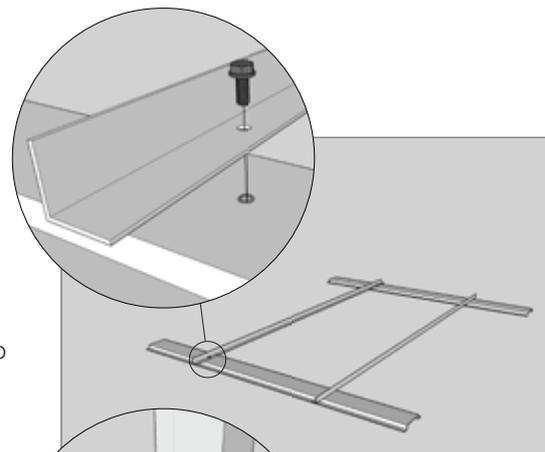

Fig 1
3. Fasten the bottom rails to the roof support rails using the existing holes with the supplied M6 hex screw with washer into the fixed nut on the roof support rail. (Fig 1)